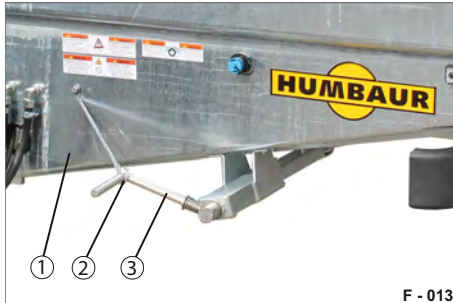
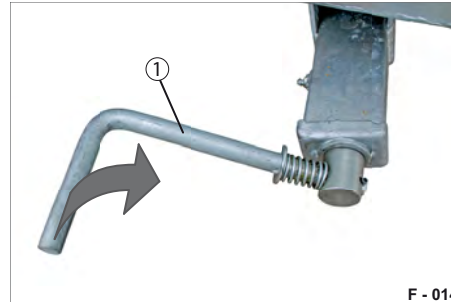

Fig. 12 Screw parking brake secured in drive position
Fig. 13 Applying the screw parking brake
- Release the hook (Fig. 12/2) from the crank (Fig. 13/1).
- Turn the crank (Fig. 13/1) in the clockwise direction until the brake is applied.